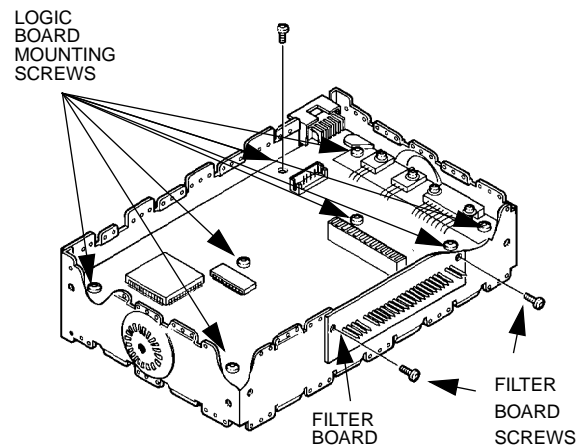

Figure 1-6.
2. Remove all logic board mounting screws (Figure 1-6).
3. Remove the two filter board screws from the front of the chassis (Figure 1-6). The logic and filter boards can now be lifted out of the chassis.